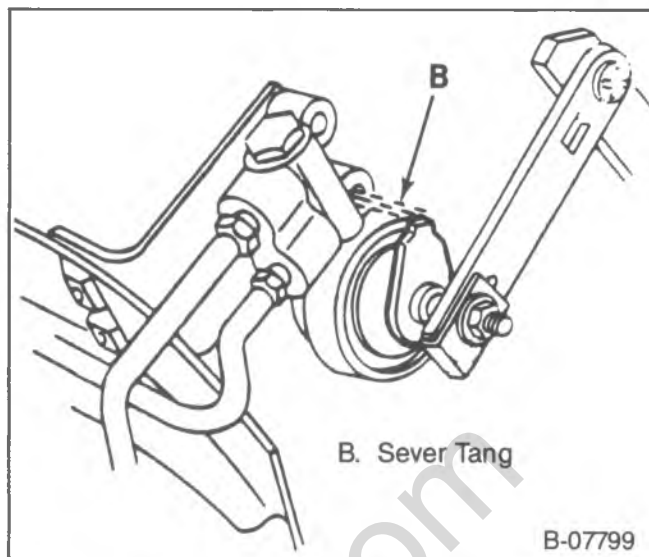

Figure 11—Severing the Adjustment Tang
6. Sever the tang on the adjustment gage (figure 11).